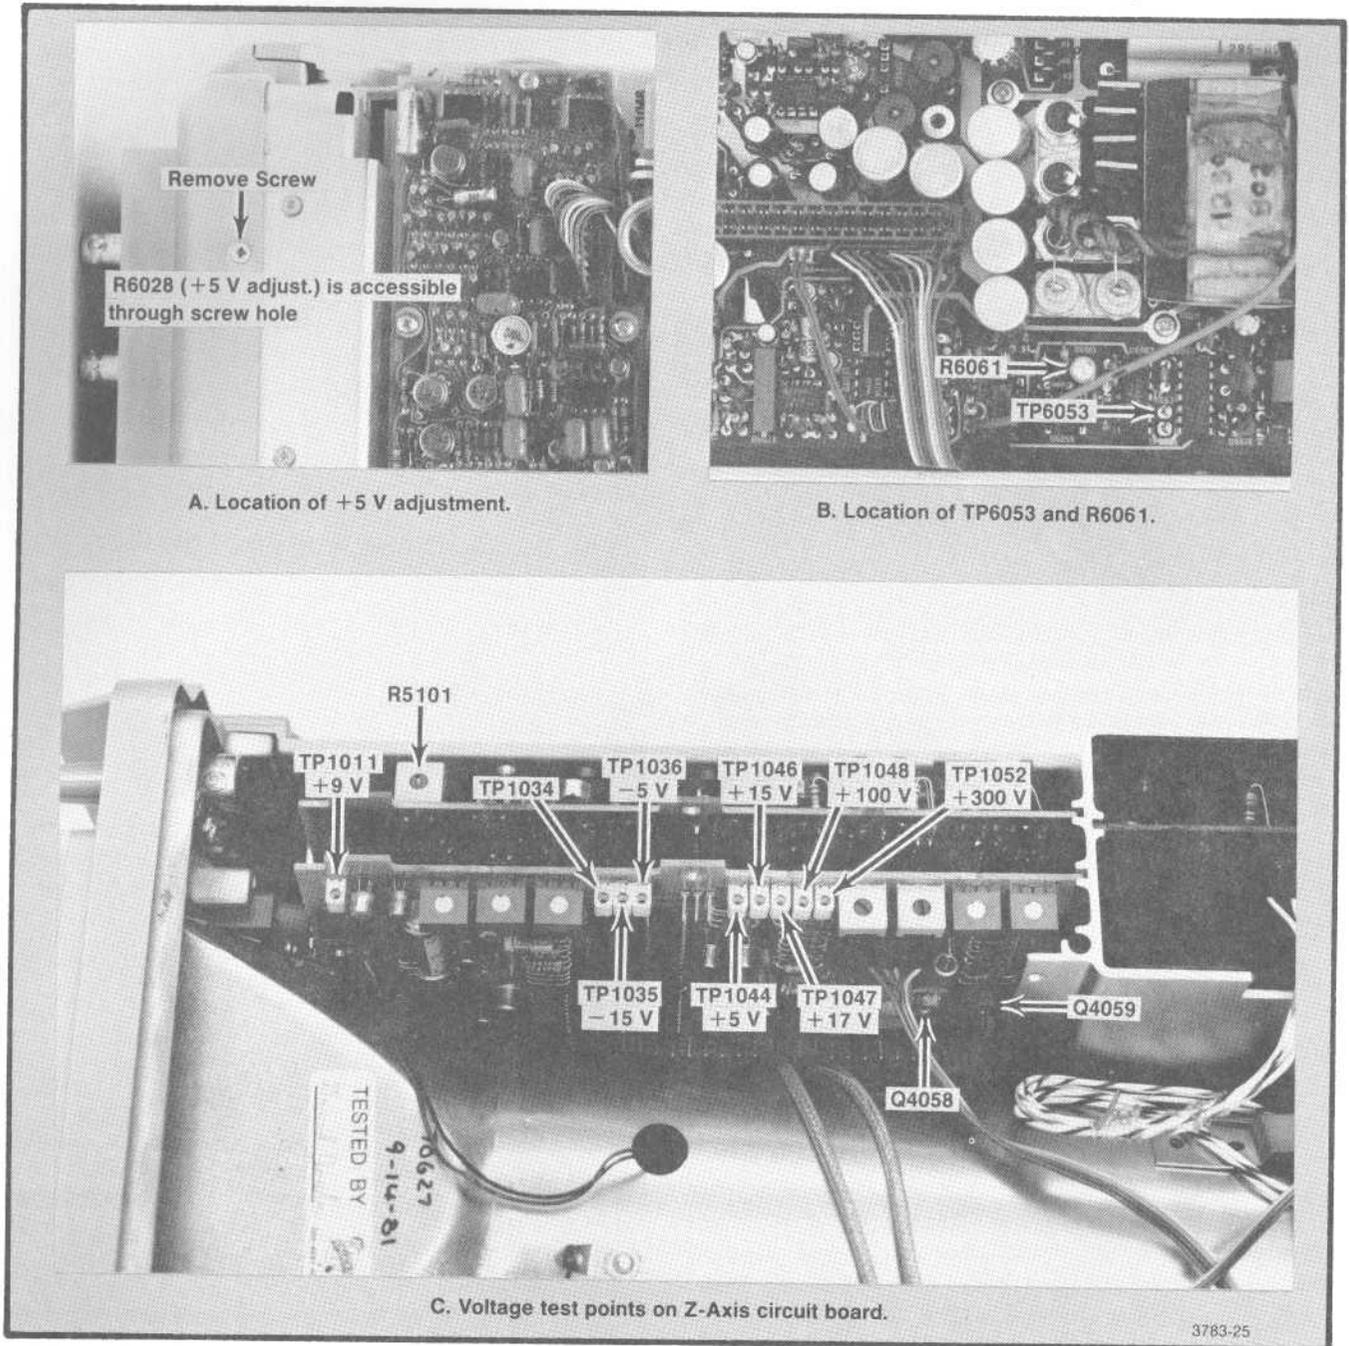

Fig. 3-22. Low voltage power supply adjustments and test point locations.
- d. Connect a test oscilloscope probe with a deflection sensitivity of 5 V/div and sweep rate of 10  $\mu$ s/div to TP6053 (Fig. 3-22). Note the output waveform of the oscillator U6059. Amplitude should be approximately 10 V.
- 1) Using a voltmeter on the 20 volt range, measure and record the collector voltage of Q4058 or Q4059 (Fig. 3-22) on the Z-Axis board.